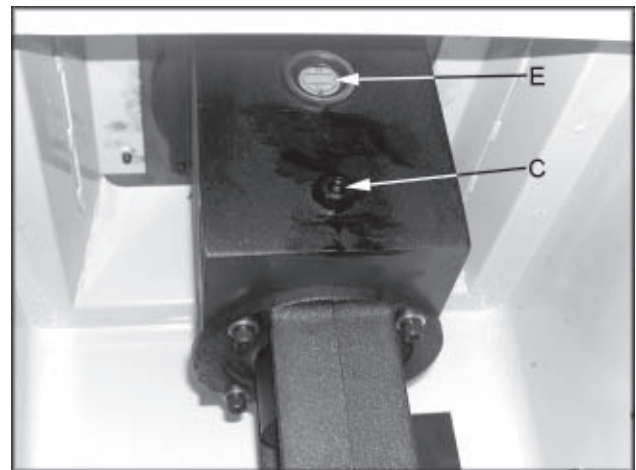

Fig. 8
1. Open the door on the back side of the machine to access the drain plug (C, Fig. 8). Use a 6mm hex wrench to remove the drain plug.
3. The oil sight glass (E, Fig. 8) should read between the “high” and “low” marks. Keep the machine and all attachments clean.